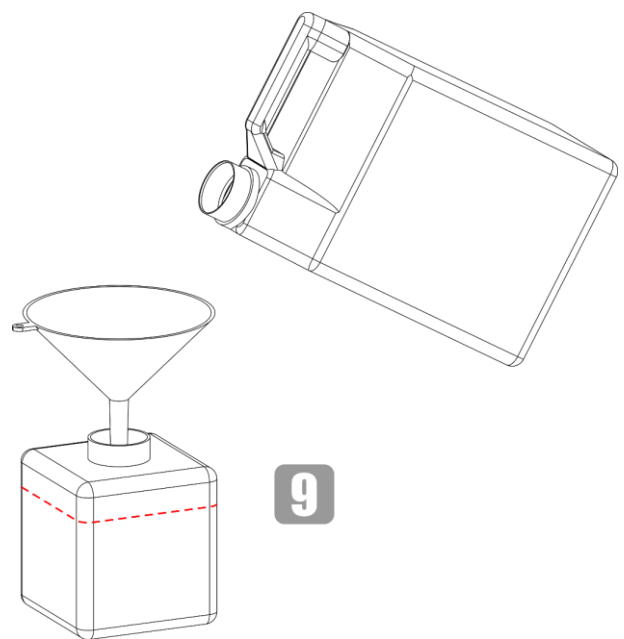

Fig. 16
- 09) Use a funnel to pour the fog fluid into the tank, as shown in Fig. 16.
- 10) Fill the fluid container with the recommended fog fluid (Max. Fluid Tank Capacity 1,5 L). Make sure that you do not overfill. See Fig. 16 for more information.